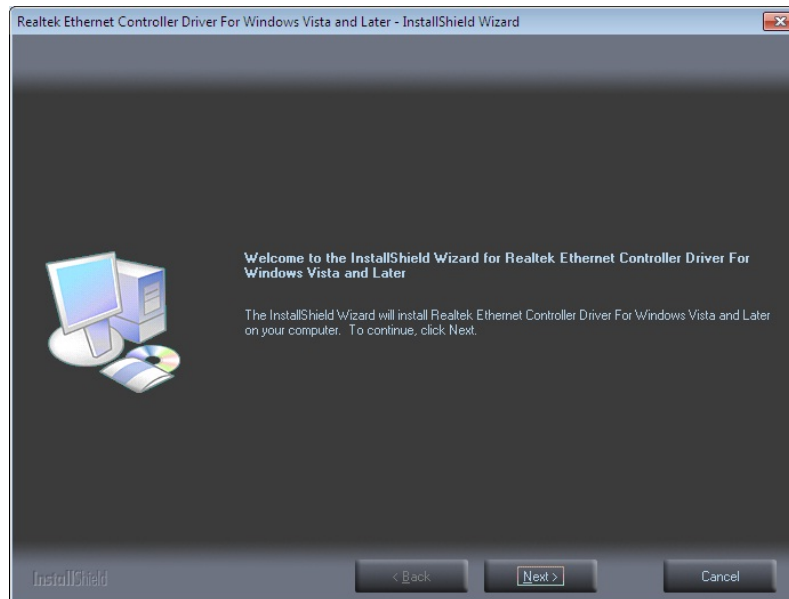

Figure 6-13: LAN Driver Welcome Screen
Step 6: The **Welcome** screen in **Figure 6-13** appears.